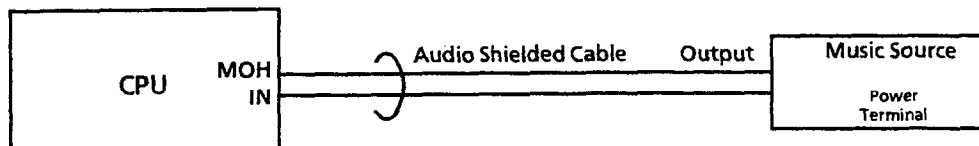

Figure 2-78 Music Source Connection
7. Connect the plug end into the CPU-F( )-20 KTU MOH jack. Refer to Figure 2-78 - Music Source Connection.